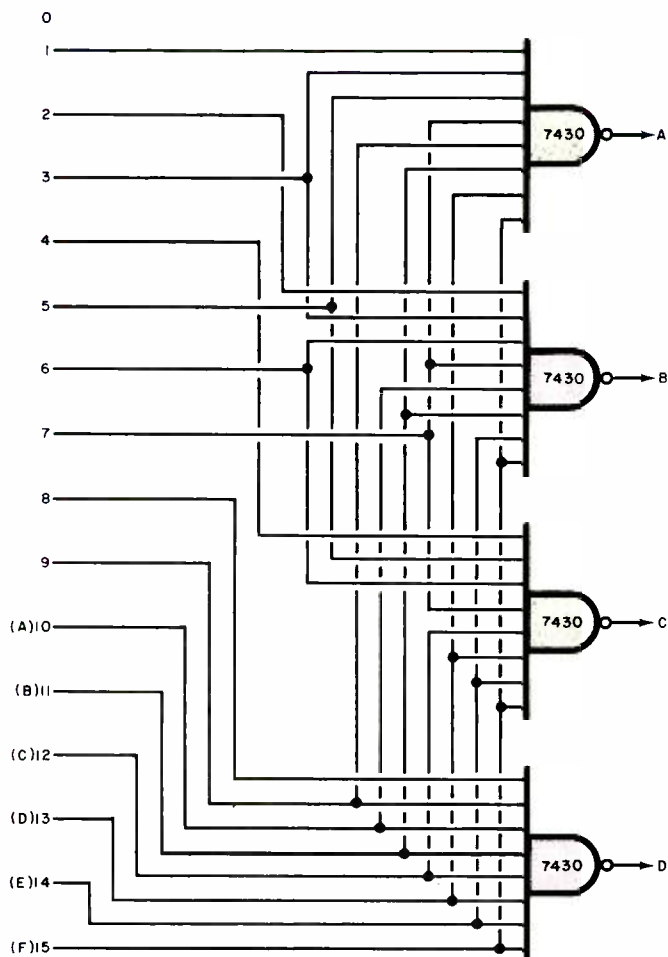

Fig. 4. Decoding logic for a hexadecimal keypad. This circuit is an addition to that in Fig. 3.
both the 8 and 2 keys must be pressed simultaneously. Similarly, a hex F (15) requires simultaneous operation of the 8 and 7 keys. If you plan to use a hex keypad, use the same AND-OR gate logic for all 16 switches and substitute the circuit shown in Fig. 4.